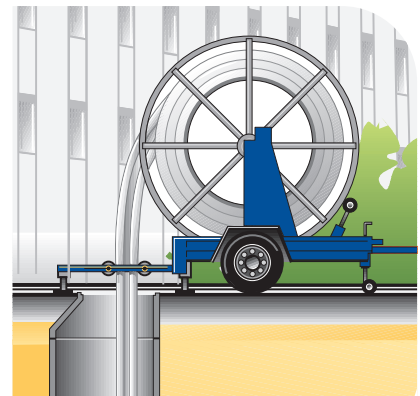

Fig. 1: Insertion from the drum trailer
3. Pulling in the pipe. (Fig. 1, Fig. 2)